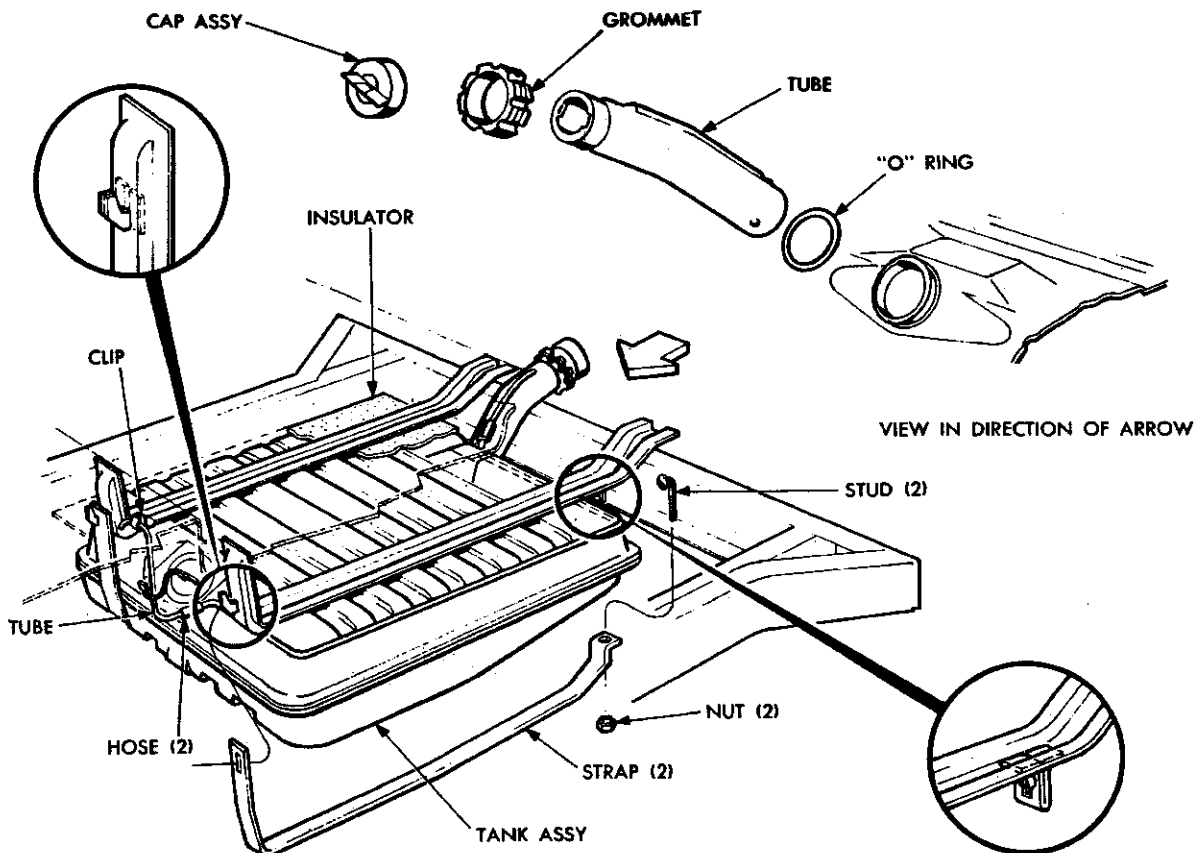

Fig. 84—Fuel Tank Mounting (Imperial)
(3) Push the tank toward the rear to fully engage the filler spout in the opening.
(4) Hold the fuel tank in this position, and place the hold down straps in position, feeding the attaching studs through holes in the end of the straps. Install the nuts but do not tighten.
(5) Guide the button head of the studs into the slots in the frame and down into position. Tighten the hold down strap attaching nuts securely.
(6) Slide the vent tube hose over the end of the vent tube. Connect the lead wire to the tank gauge unit and reconnect the fuel line.
(7) Refill the tank and check for leaks.
33. FUEL TANK (Imperial) (Fig. 84)
(1) Drain the tank, then disconnect the fuel line and the lead wire to the gauge unit.
(2) Disengage the vent tube from the vent tube hose. (Refer to Fig. 84.)
(3) Using Tool C-3584, hooked into the filler tube cap opening, pull the filler tube out of the fuel tank. As filler tube is being removed, the vent tube on the filler tube will pull out of the connector hose. (Refer to Fig. 84.) Slide the grommet off filler tube.
(4) Loosen the nuts that hold the ends of the fuel tank down straps until the button head studs can be disengaged from the floor pan brackets. Disengage studs from brackets and at the same time support the tank. Drop the tank straight down and out from under the vehicle.
(5) Remove the gauge tank unit, using spanner wrench Tool C-3582.
(4) Slide the grommet over the filler tube, then insert filler tube through opening in rear panel. (Be sure the vent tube is up and engages the rubber hose connection.)
(5) Push the filler tube down until the tube is aligned with the tank neck opening. Using a rubber hammer, drive the tube into the seal ring until the tube seats on the shoulder of the seal retainer. (See that the vent tube has entered the hose correctly.)
(6) Connect the vent tube on the forward end of the tank with the rubber hose and vent tube mounted on the floor pan. Be sure the end of the tube is open. (Refer to Fig. 84.)
(7) Tighten the tank hold down strap attaching nuts securely. Connect the fuel line to the tank and wire lead to the tank unit.
(8) Refill the tank and check for leaks.